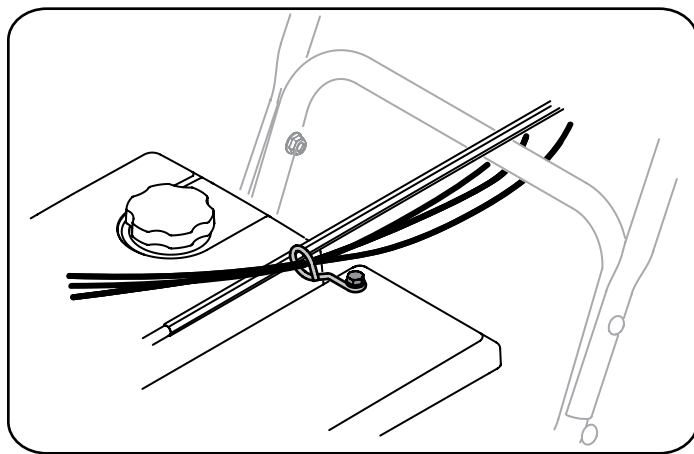

Figura 33
- Locate cable guide on top of engine and ensure cable(s) are properly routed through the cable guide. Consulte Figura 33.